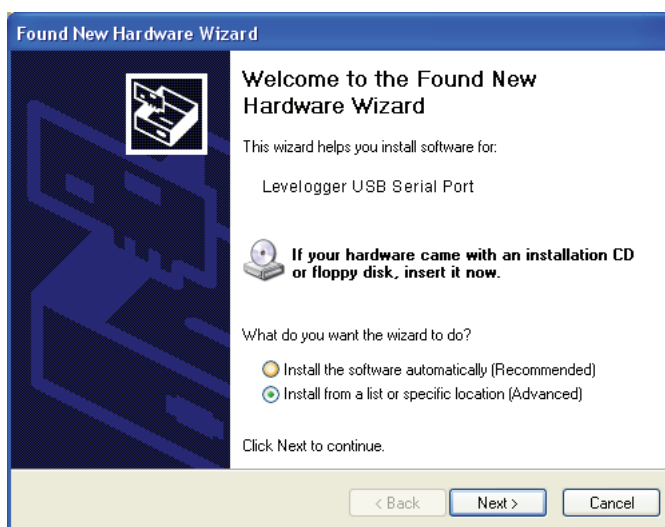

Figure 4-1 Found New Hardware Wizard Window
- 3) Click 'Install from a list or specific location', then click the 'Next' Button. (Figure 4-1).